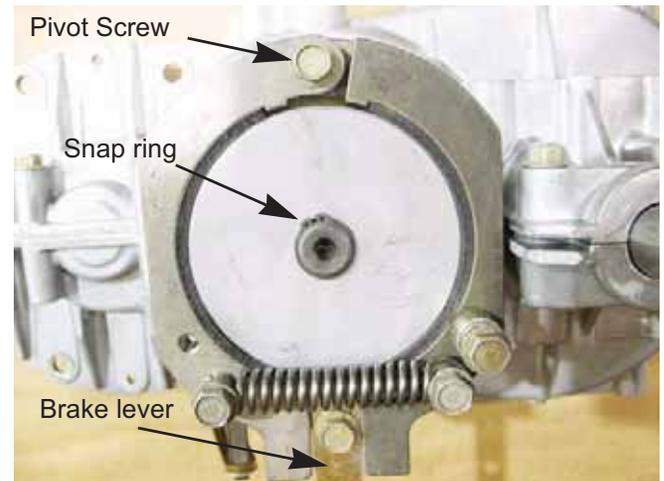

Figure 5B.32
- 2a. Remove the snap ring that secures the brake drum to the brake shaft. See Figure 5B.32
- 2b. Remove the brake lever using a 3/8" wrench. See Figure 5B.32